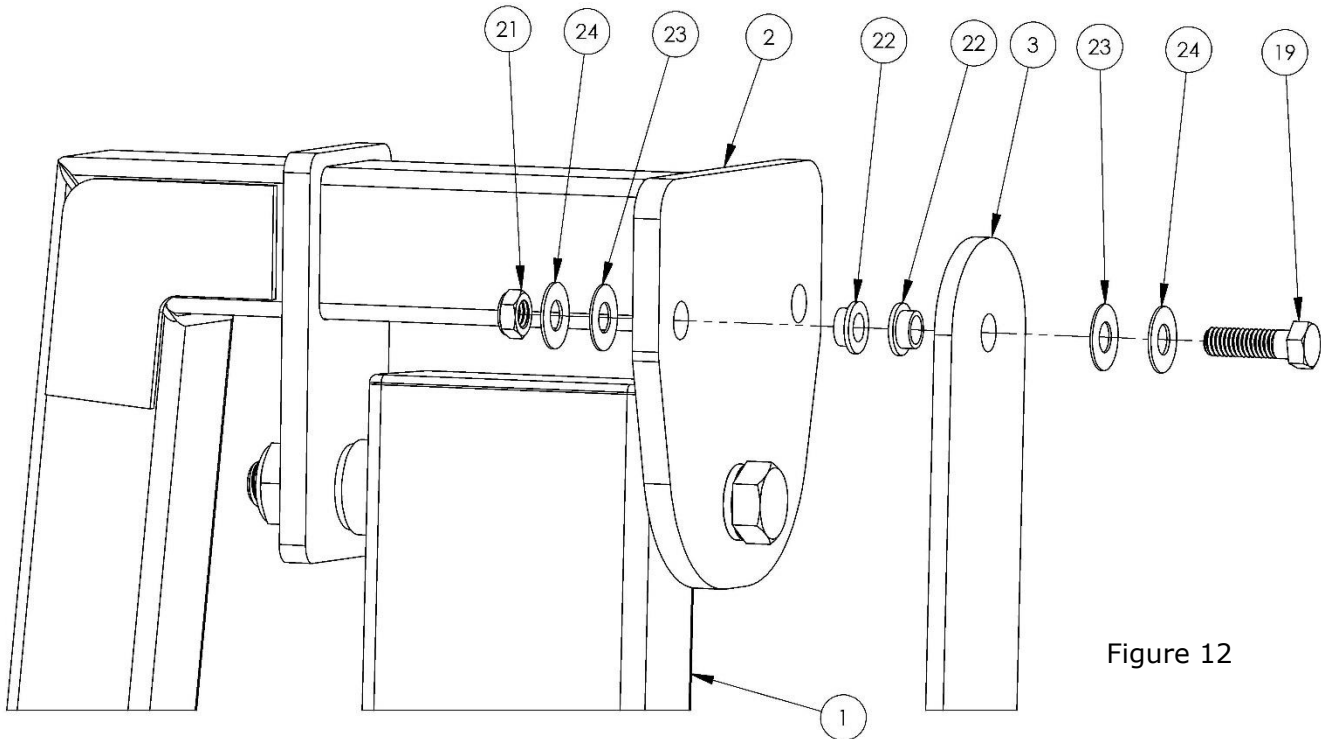

Figure 12
16. Next attach the seat leveling arm to the seat arm as shown in Figure 12.